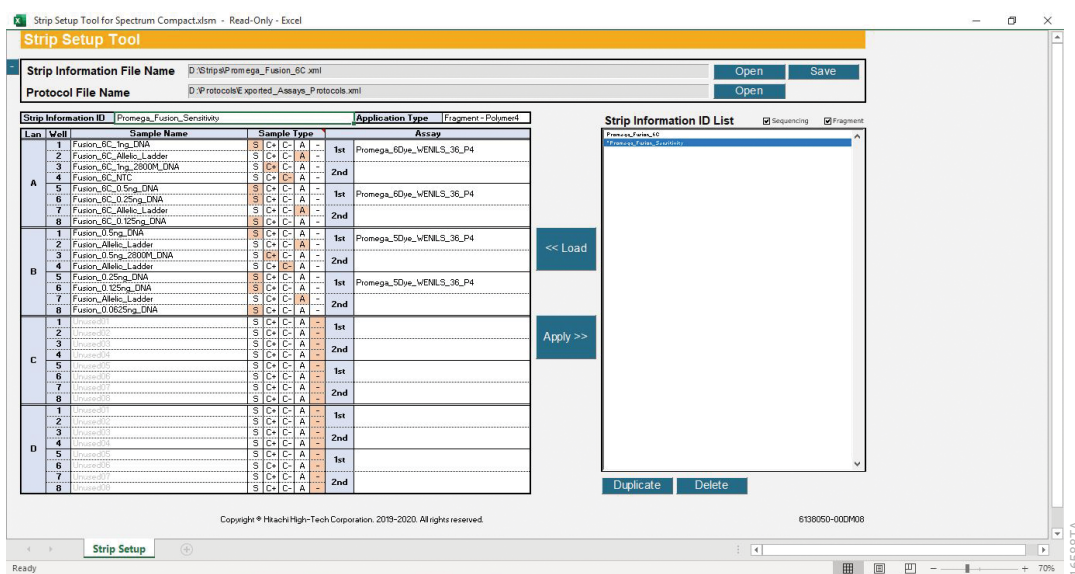

Figure 254. Strip Setup Tool for Spectrum Compact with new strip in Strip Information ID List.
- Select **Apply** to move the newly created strip information to the 'Strip Information ID List'. The name of the newly created strip will appear in this list (Figure 254).